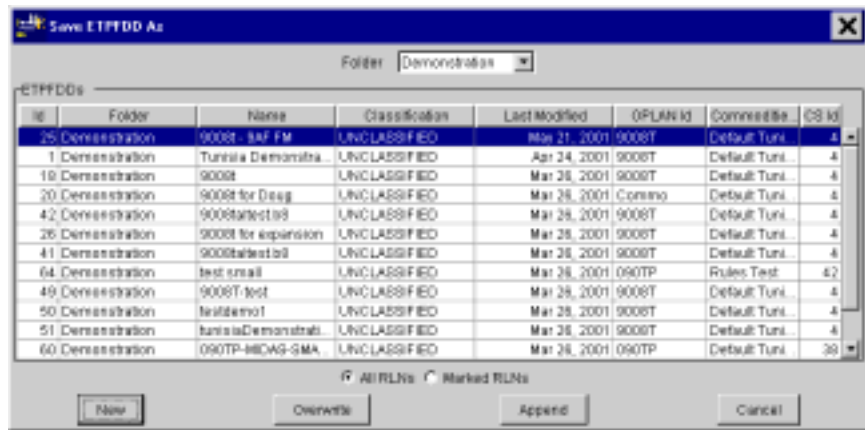

Figure 5.11 Save ETPFDD As Window
2. On the File menu, click Save As. The Save ETPFDD As window opens (Figure 5.11).